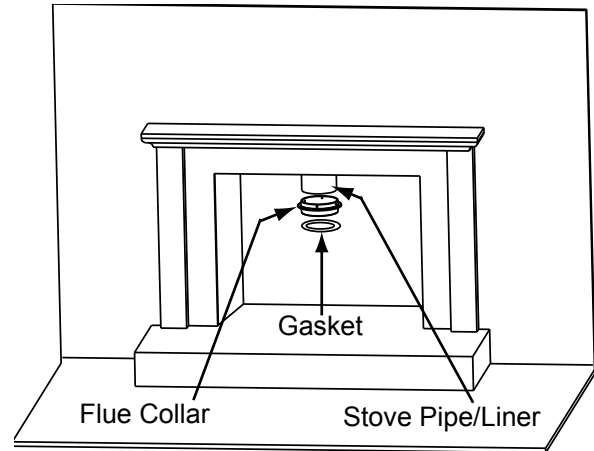

Figure 19.2
1. There are 4 already drilled holes in the flue collar 90 degrees apart. Attach the flue collar to the stove pipe/liner. If the seal is questionable use high temperature sealant such as stove mastic (Figure 19.2).